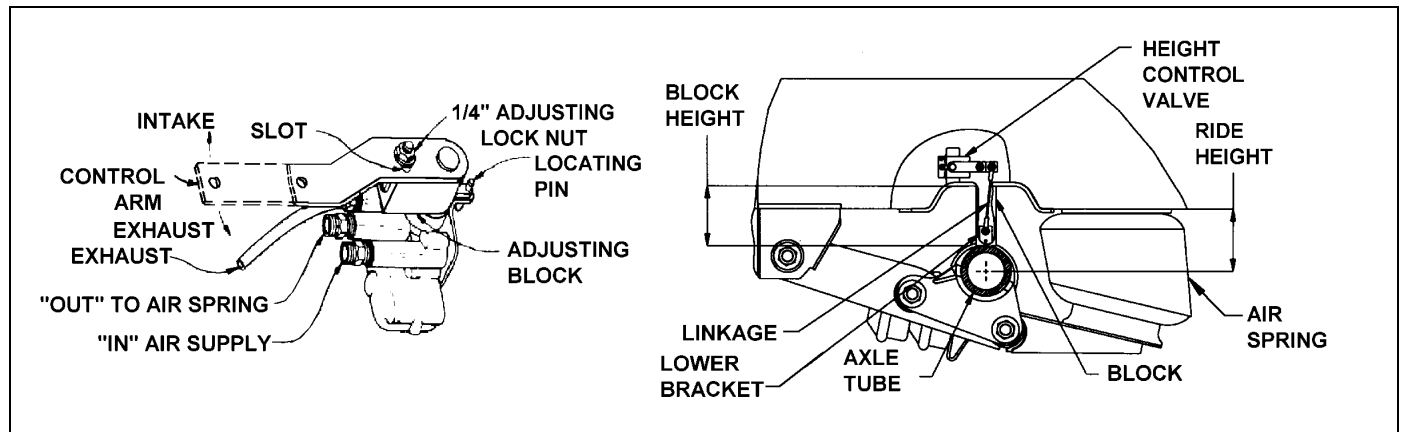

Figure 4-6: Air Ride Height Adjustment
(See Figure 4-6 for parts identification.)
2. Disconnect linkage at the control arm and raise control arm to the "up" position, raising the trailer until a block can be placed between axle tube and undercarriage frame (See Figure 4-6.)
6. Loosen the 1/4" adjusting lock nut located on the adjusting block, allowing the control arm to move approximately 1 inch. Move the adjusting block until holes align, then insert locating pin. (See Figure 4-6.)